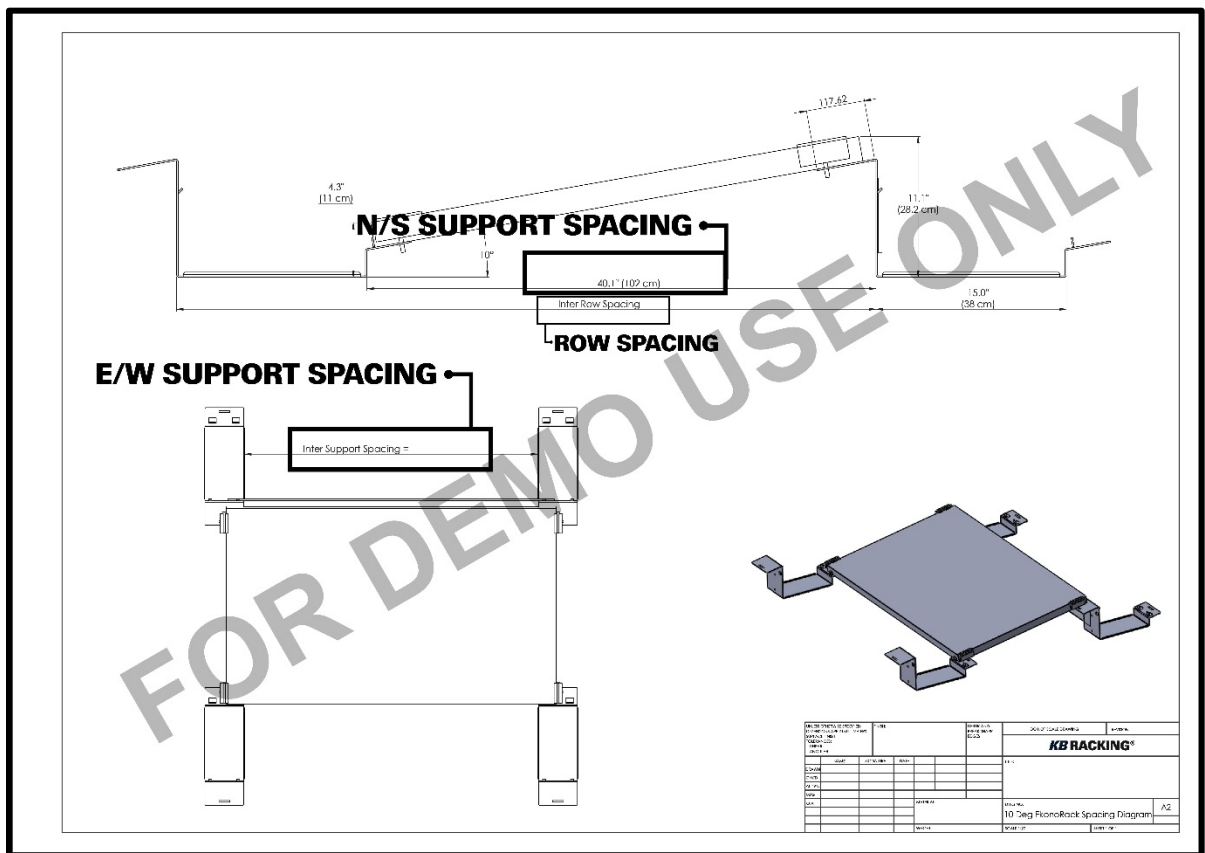

Fig. 4 - Sample Spacing Diagram
- 2 Use your project specific *Spacing Diagram* to obtain the distance between two module supports in the N/S and E/W directions. Complete the first row of the array (see example, Figure 4).